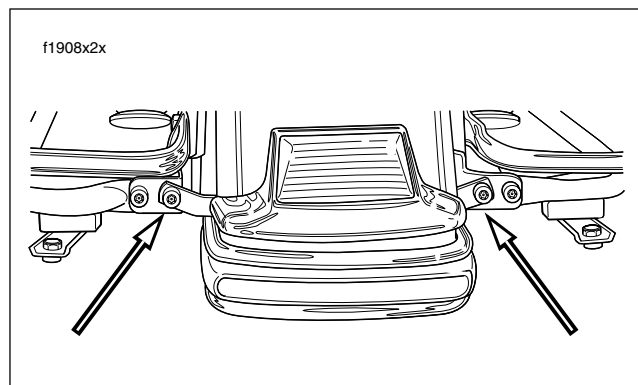

Figure 2-192. Rear Bumper Screws (T40 TORX)
9. At rear of motorcycle, remove inside screw (and flange nut) to release rear bumper bracket from saddlebag support bracket and saddlebag support rail. Repeat step on opposite side of motorcycle. See Figure 2-192.
7. Start inside screw (with flange nut) to fasten rear bumper bracket to saddlebag support bracket and saddlebag support rail. Repeat step on opposite side of motorcycle. See Figure 2-192.